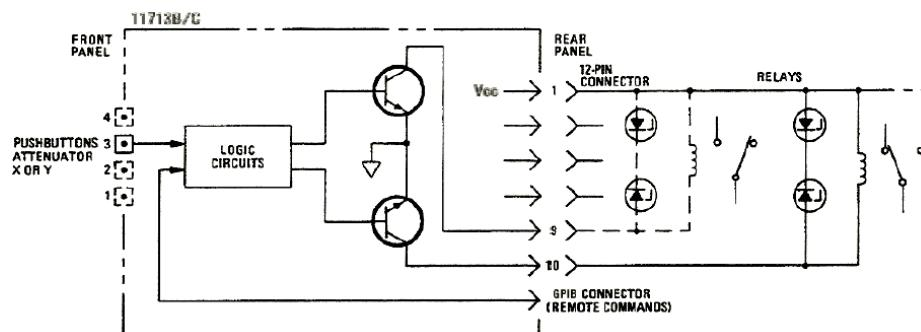

Figure 2-7 Typical connection for relay driving circuit
- **Figure 2-7** below shows the connections for a simplified relay driving circuit. The circuit is adaptable for simple non-latching relays.